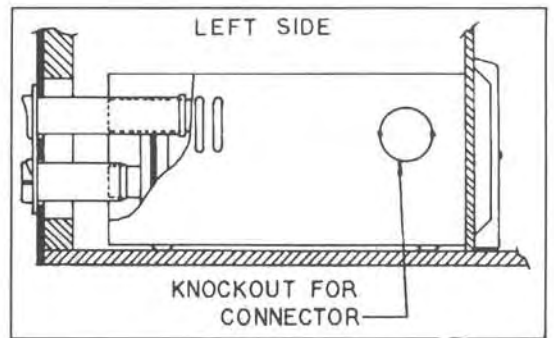

Figure 6A
12. NOTE: OPTIONAL DISCHARGE DUCT ADAPTER -The cabinet has a 4" diameter knockout on the left side of cabinet. (See Figure 6A.) A 4" diameter connector can be attached to this location to provide a warm air discharge duct. (Not to exceed 10" in length.)